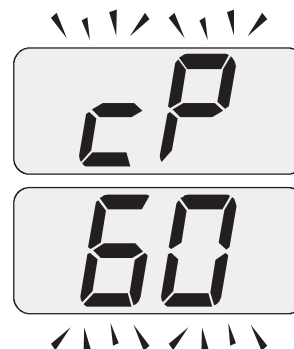

Figure 11.8
- 20 Press key "G" to vary the output in chimney sweep mode: when the display shows the letters cP that alternate with the heating water temperature value (e.g. 60), the "chimney sweep function" is at maximum output in heating mode (Figure 11.8);